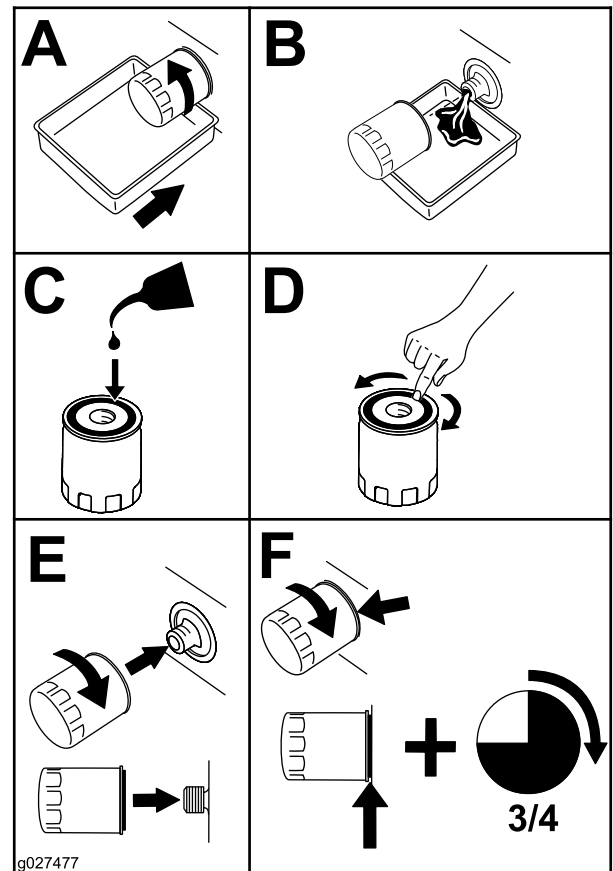

Figure 54
- Change the engine oil filter (Figure 54).